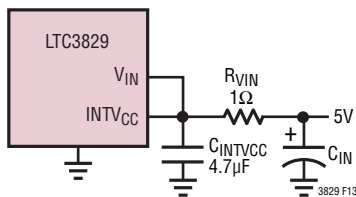

Figure 13. Setup for a 5V Input
For applications where the main input power is 5V, tie the VIN and INTVCC pins together and tie the combined pins to the 5V input with a 1Ω or 2.2Ω resistor as shown in Figure 13 to minimize the voltage drop caused by the gate charge current. This will override the INTVCC linear regulator and will prevent INTVCC from dropping too low due to the dropout voltage. Make sure the INTVCC voltage is at or exceeds the RDS(ON) test voltage for the MOSFET which is typically 4.5V for logic-level devices